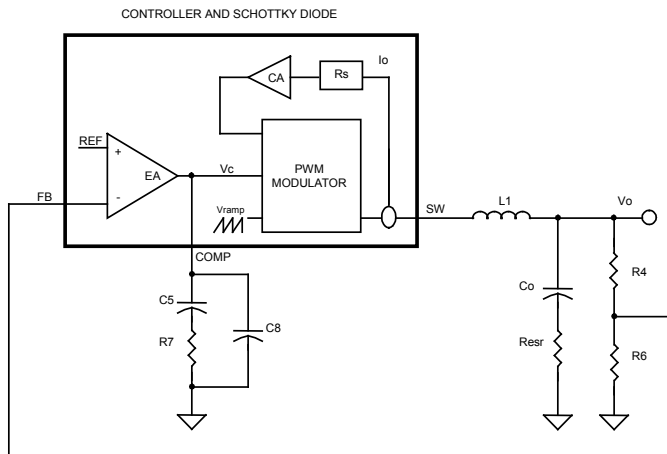

Figure 7. Block diagram of control loops
The block diagram in Figure 7 shows the control loops of a buck converter with the SC4525D. The inner loop (current loop) consists of a current sensing resistor ($R_s=3.53m\Omega$) and a current amplifier (CA) with gain ($G_{CA}=18.5$). The outer loop (voltage loop) consists of an error amplifier (EA), a PWM modulator, and a LC filter.
For a converter with switching frequency F_{SW} , output inductance L_1 , output capacitance C_o and loading R , the control (V_c) to output (V_o) transfer function in Figure 7 is given by: